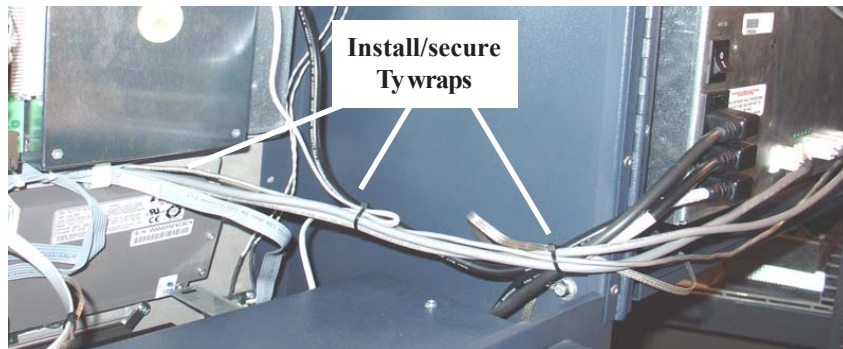

Figure 23. Route/secure power cable(s).
18. With the cabinet access door fully open, route the power cable with the existing power cables and Ty wrap all together (Figure 23).